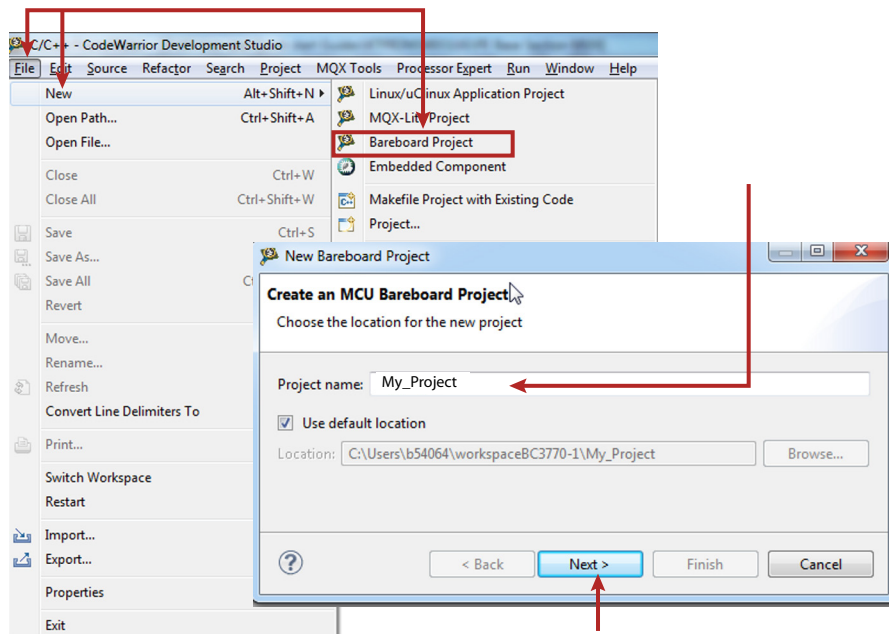

Figure 23. Creating an MCU Bare-board Project
1. In the CodeWarrior menu bar, select **File** -> **New** -> **Bareboard Project**. When the **New Bareboard Project** dialog box opens, enter a project name into the text box and then click **Next**. (see Figure 23).